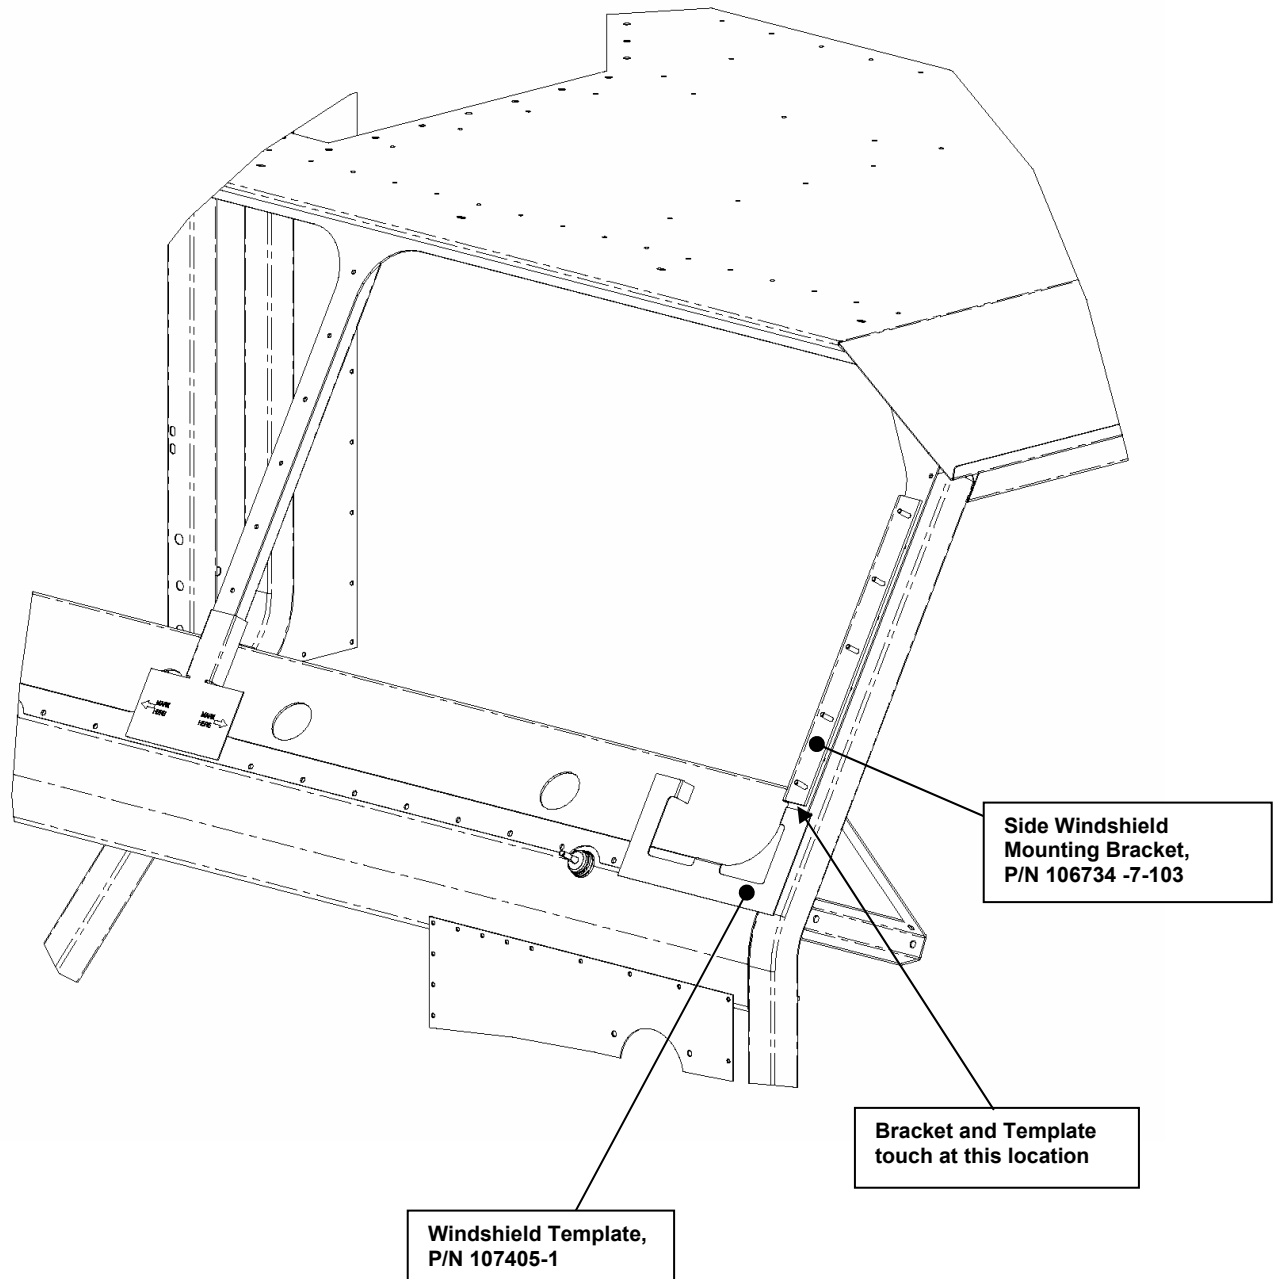

Figure 15. Windshield Bracket, Side Mounting.
- c) Place the Windshield Template (P/N 107405-1) on the vehicle, as shown in Figure 15. Place the Windshield Bracket (P/N 106734-7-103) on top of the template and against the window frame (see Figure 15). Once the bracket is located, tighten the upper and lower bolts so that the bracket clamps to the window frame of the vehicle. Do not tighten all of the bolts at this time, as adjustment may be required in the next steps. Using the same Template, install the other Windshield Bracket on the opposite side of the vehicle window frame. Remove the Template from the vehicle when complete.